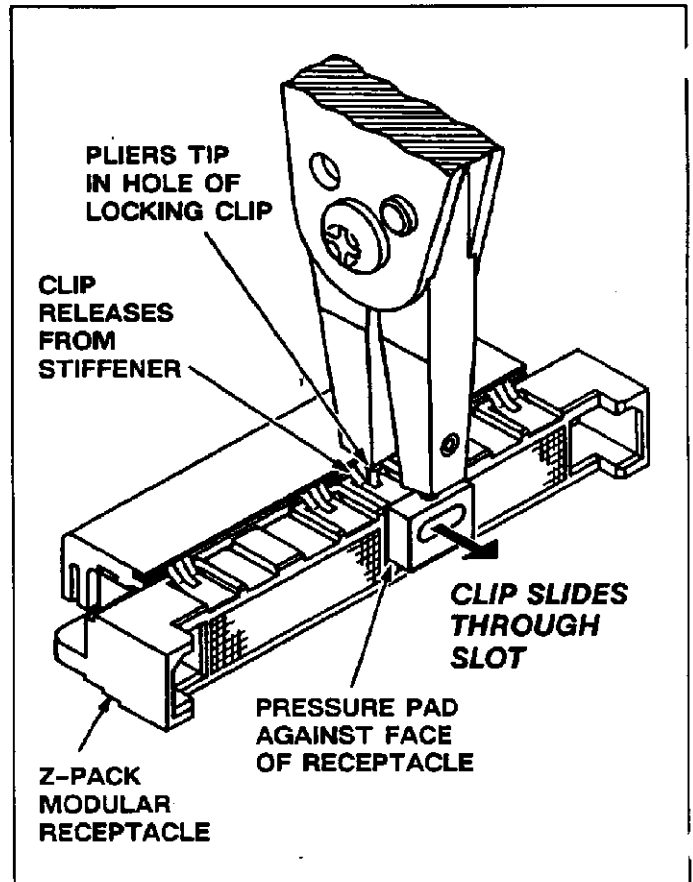

Fig. 3
4. REMOVING LOCKING CLIP (Figure 3)